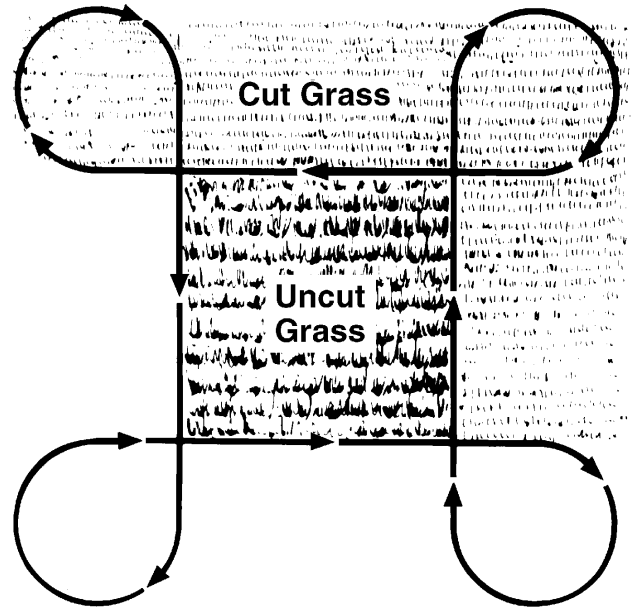

Figure 58
4. Follow the mowing pattern shown in Figure 58.